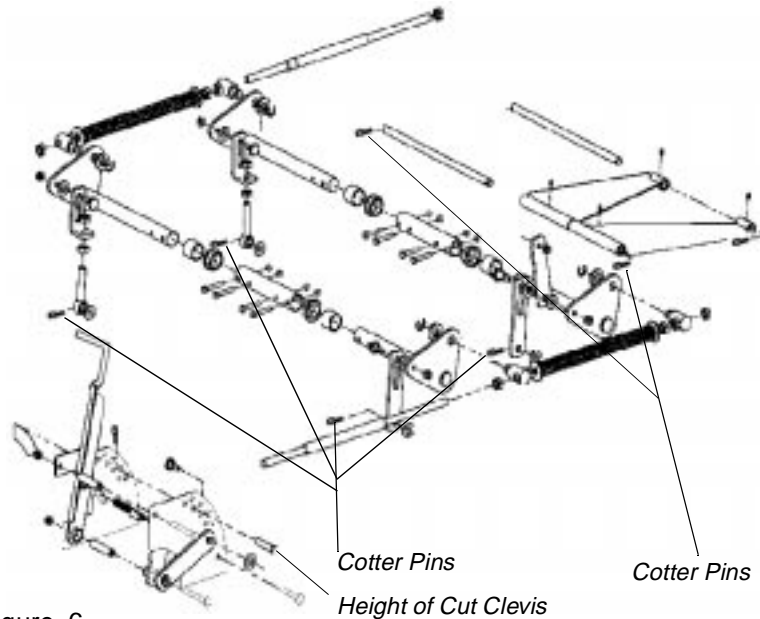

Figure. 6
- e. Remove six cotter pins (See Fig. 6) (4) from the deck and (2) from the front of the mower. Remove the cotter pins on the left and right rear side of the cutter deck (2); remove the cotterpins on the left and right front side of the cutter deck (2); and remove the cotter pins on the front of the mower (2).